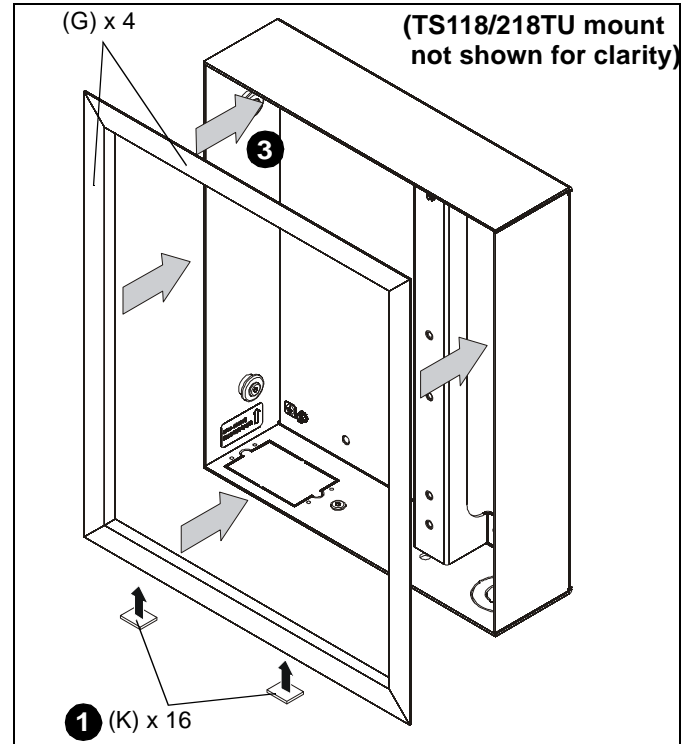

Figure 12
1. Remove paper covering adhesive and affix three tape squares (K) to inside lower flange of each trim piece (G). (See Figure 12)
2. Orient trim pieces (G). (See Figure 12)
3. Remove paper covering adhesive back from tape squares (K) on trim and press trim (G) against inner wall of box. (See Figure 12)